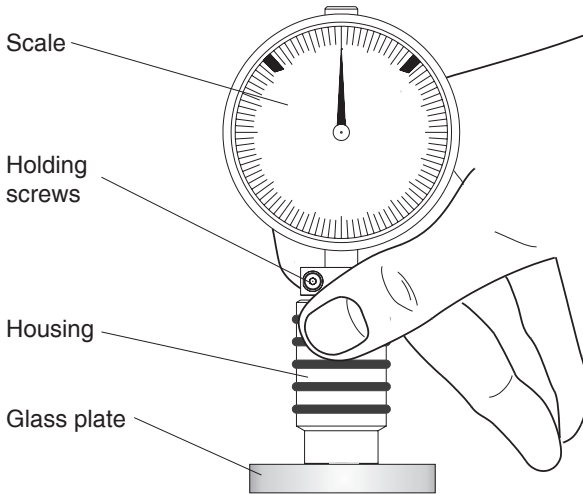

fig. 3.3
- Press the durometer down on a glass plate, until the measuring face rests on the measured material (fig. 3.3).